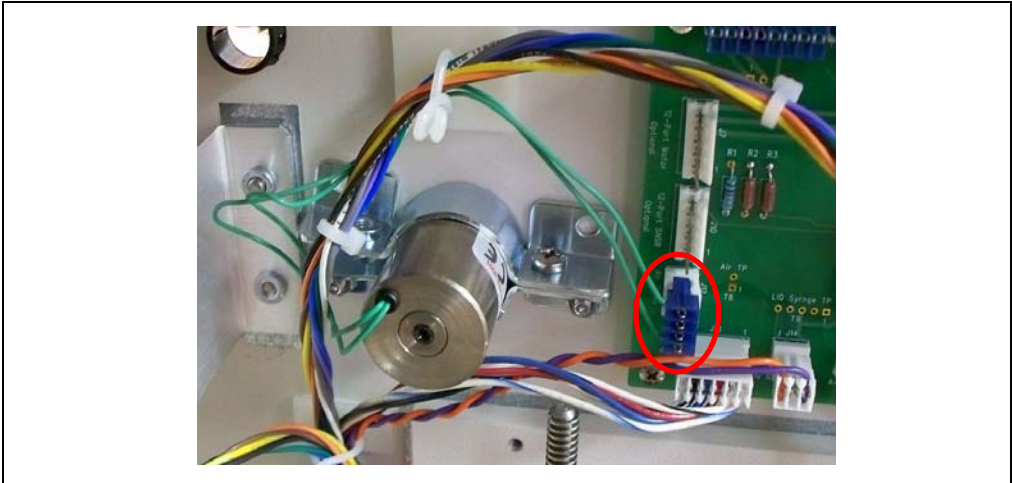

Figure 5-15. Air Push Valve Wiring Connector
4. Locate and disconnect the valve wiring connector from the Valve Distribution board (see Figure 5-15).
3. Reconnect the wiring connector to the Valve Distribution board (see Figure 5-15).